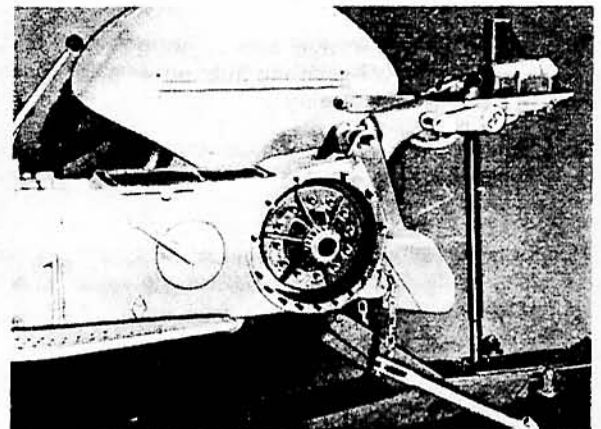

FIG. 11
4. Pull hydraulic lift cover over rear of centre housing and support on MF.226 as shown in Fig. 11.